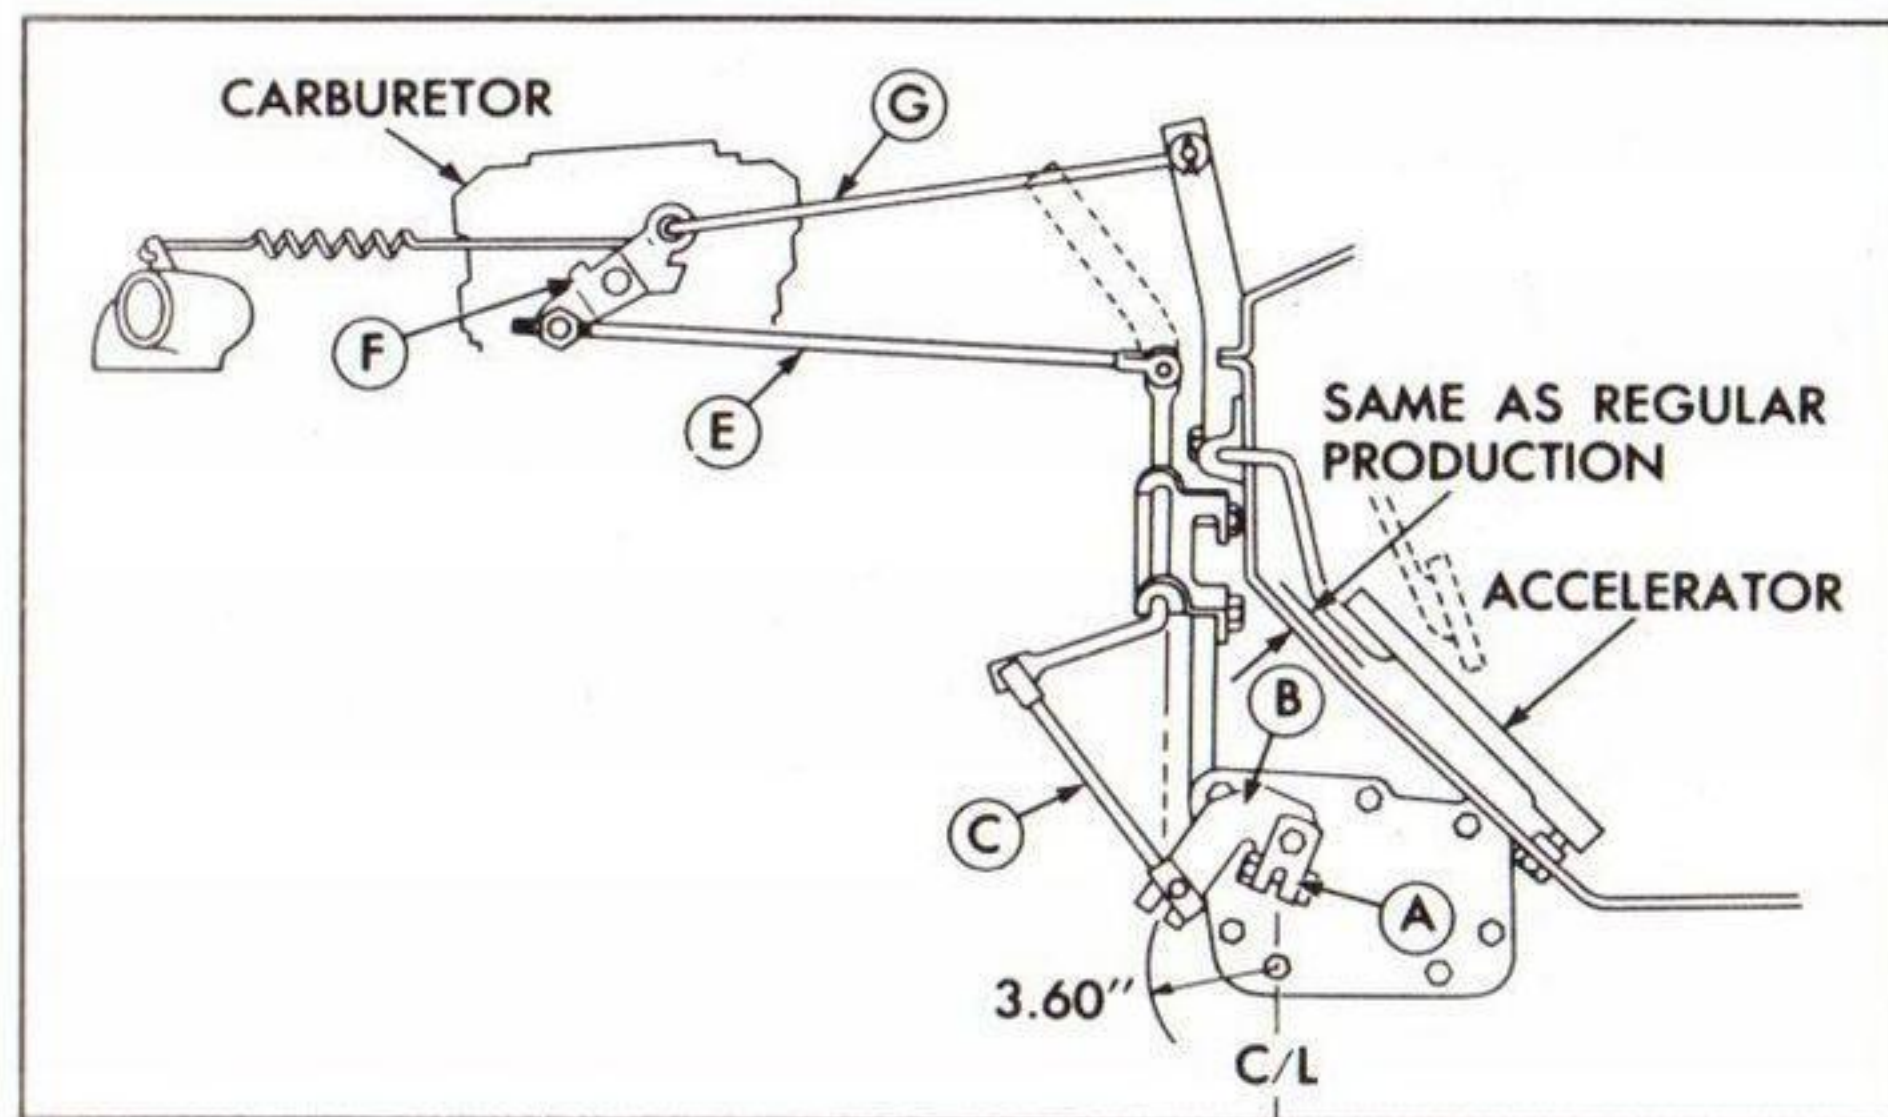

Fig. 62—Powerglide Linkage Adjustment
Powerglide Linkage Adjustment with Carburetion System. (Fig. 62)
1. Loosely assemble lever (B) to clamp (A) (fig. 62).
2. Insert gauge between transmission left hand side cover lower front bolt and hole in lever (B) (3.60" dimension between bolt and hole center-lines) with gauge in place, and holding clamp (A) counter-clockwise in full detent position, tighten lever (B) to clamp (A) remove, gauge.